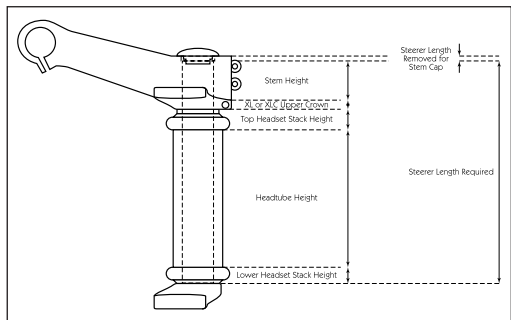

Fig. 3
3. The steerer tube may need cutting to proper length. To cut the steerer tube, removal of the upper tubes are required. This is necessary otherwise the upper tubes will be in the way when cutting the steerer tube to proper length. The steerer tube length is determined by the following parts: Judy XLC upper crown steerer clamp length, stem steerer tube clamp length, frame head tube length and top and bottom headset stack height (see Fig. 3). To ease in the assembly, do not install the Judy XLC upper crown on to the upper tubes until the steerer has been cut to the proper length and the lower crown has been fastened in the required position. **HINT: MEASURE TWICE AND CUT ONCE!**